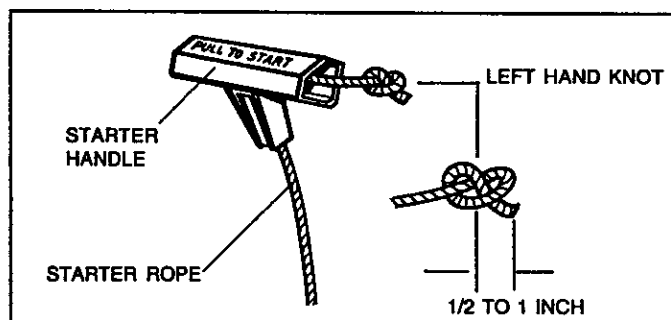

Figure 5
- Feed starter rope through starter handle (see Figure 5) and tie a left hand knot, leaving 1/2 inch to 1 inch of starter rope extending beyond knot. **DO NOT PULL LEFT HAND KNOT INTO STARTER HANDLE YET.**